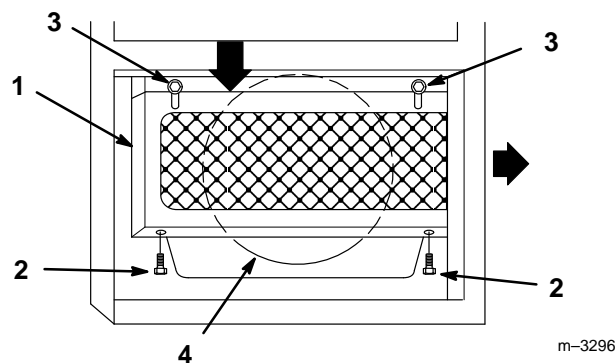

Figure 24
- To remove cooling screen remove lower bolts and loosen top bolts. Slide screen down and rearward to expose oil cooler (Fig. 24). Save all mounting hardware.
- Clean off engine air intake (Fig. 24).
- Install screen from rear and raise over oil cooler. Secure with previously removed hardware (Fig. 24).